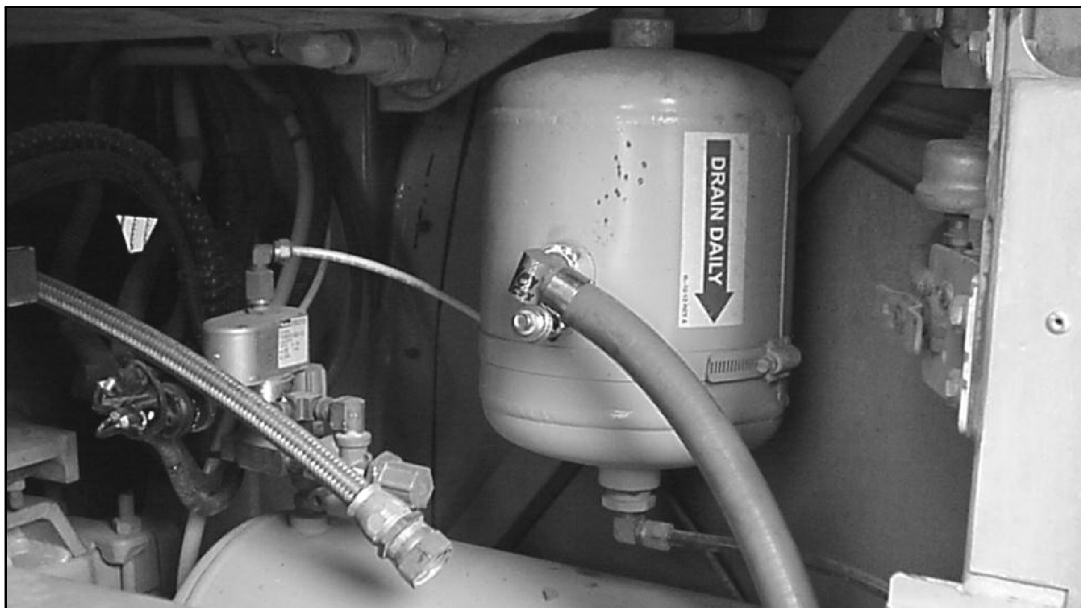

Figure 2. Reference photo.
5. Disconnect air compressor discharge line at the ping tank. Remove and retain the fitting. Connect the $\frac{3}{4}$ " nylon hose from the sump pump outlet to the ping tank (Figure 2).